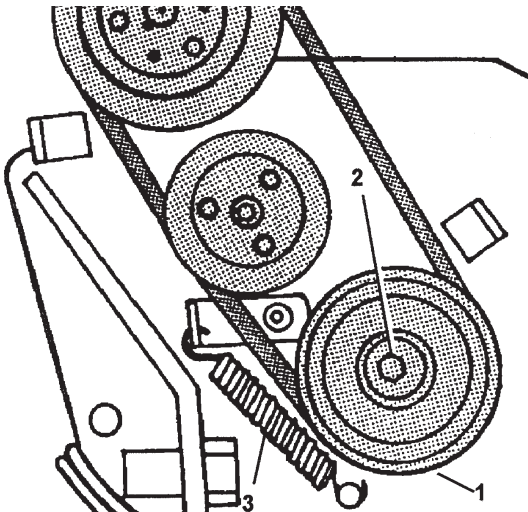

FIGURE 53
8. Remove fasteners that secure pulley to cuttershaft (See Figure 53 item 2). Remove pulley and key (See Figure 53 & item 2)